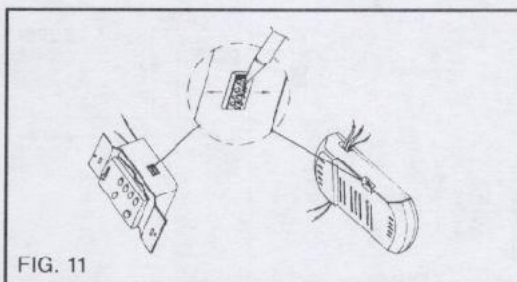

FIG. 11
**NOTE:** (Fig. 11). This remote control unit is equipped with 16 code combinations to prevent possible interference from or to other remote units. The frequency switches on your receiver and transmitter have been preset at the factory. Please recheck to make sure the switches on wall transmitter and receiver are set to the same position, any combination of settings will operate the fan as long as the wall transmitter and receiver are set to the same position.